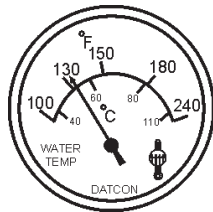

Figure 56. Coolant Temperature Gauge
14. The coolant temperature gauge (Figure 56) will indicate the coolant temperature. Under normal operating conditions the coolant temperature is approximately 215°F.